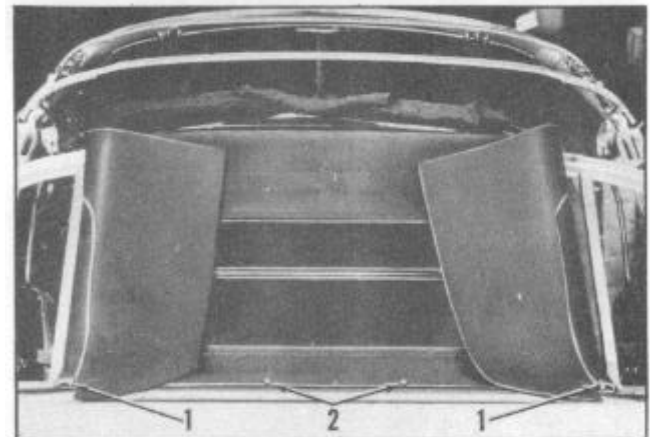

FIGURE 135
2. Insert two sharp-pointed tools thru the two outer screw holes at the bottom of the rear curtain and into corresponding two screw holes in the body at belt line, Figure 135. Remove the tools and install the two Phillips head screws at 1 and the two screws at 2. (This procedure will position and center the rear curtain for tacking, at the top rear bow.) Pull the rear curtain straight